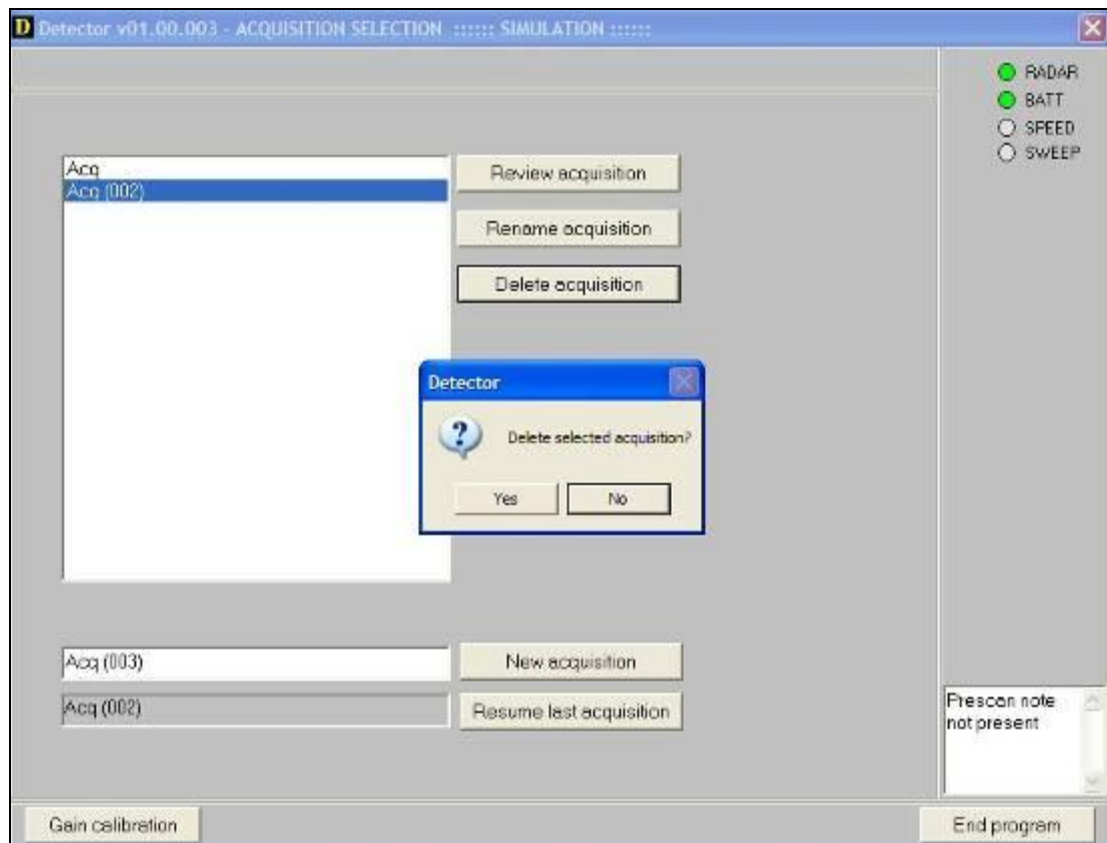

Fig. 5.22 – Deleting a survey
- Any of the surveys saved on the computer can be deleted by pressing the  button; select the survey name and press the delete button, the software requests you to confirm your choice (Fig. 5.22).
- press the  button to close the editing application, the window shown in Fig. 5.22 will reappear.